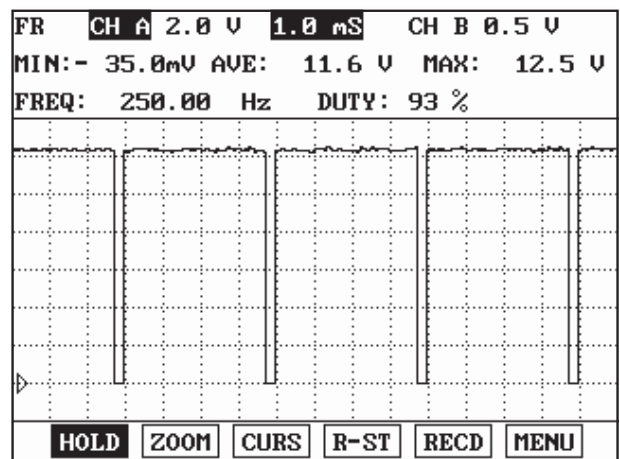

Fig.2
- Fig.2) Waveform of Throttle control actuator at closed position : At IG KEY "OFF", 93% duty is outputted for about 1 sec.